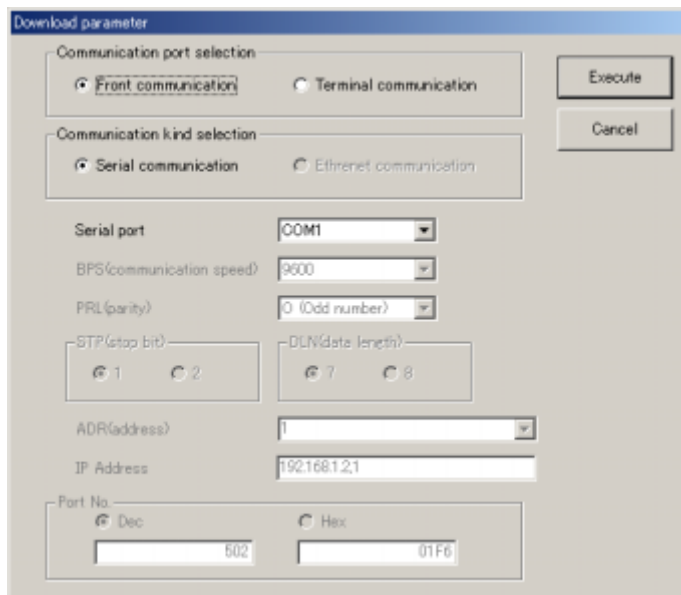

Figure 6.2.1 Download Parameter Dialog Box
The Download Parameter dialog box (Figure 6.2.1) appears.
- (1) On the menu bar, click **Communication**, and then choose **download from controller**. The Download Parameter dialog box (Figure 6.2.1) opens.
- (2) Click **Terminal communication** (this means to use the communication terminals at the rear of the controller).
- (3) Click **Ethernet communication**.
- (4) Set the target controller's IP address and RS485 communication address in the **IP Address** text box.
- (5) Set the target controller's port number in the **Port No.** text box. The port number can be set in decimal or hexadecimal.
- (6) Connect the controller to the personal computer, and then click **Execute**.
- (7) When the parameter data has been successfully downloaded, the tool displays a message stating "Parameter data has been downloaded from the controller."